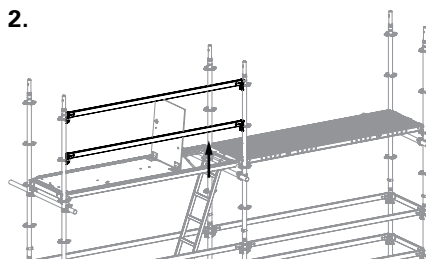

Fig. A4.02
- Close hatch from below (Fig. A4.02)